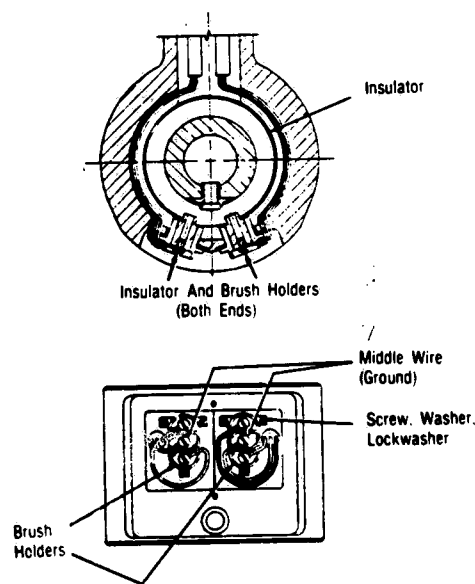

Figure 4-23. BRUSH HOLDERS AND CONNECTIONS.
3. Disconnect both sets of three wires from each brush holder assembly. Secure wires (bend sideways) so that they will not slip into hub. (See Figure 4-23)